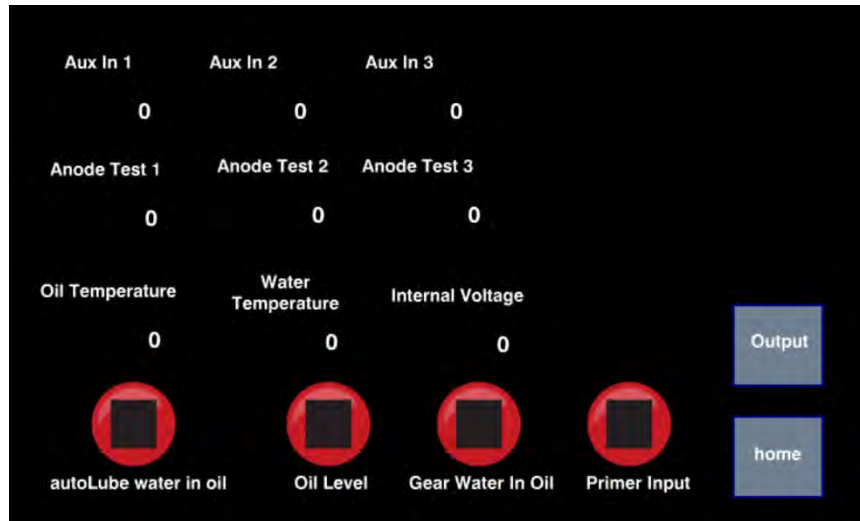

Figure 122. Input Screen (Red Balloons)
- B. On Password Enter screen, touch Output/Input password digits (see Table 3, page 36) and then touch Enter button. Input screen displays (see Figure 122).